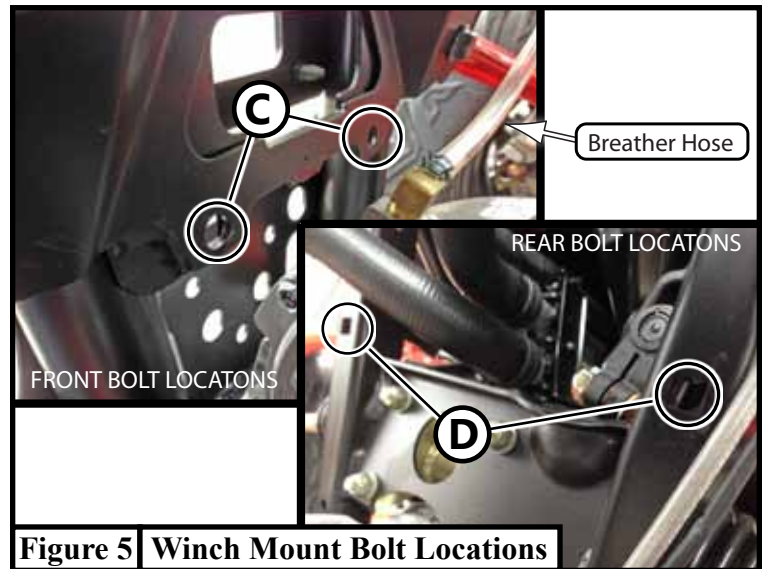

Figure 5 Winch Mount Bolt Locations
5. Once your rear holes are drilled, loosen the 6 bolts (A) to install the Lift Latch Stop (5) between the Flat Cradle Keeper (4) and push tube bulkhead. **The triangle notch in the Lift Latch Stop (5) should be oriented towards the rear of the pushtubes (front of the machine).** Secure components with Bolts (6.4) and Nuts (6.7). See **Figure 5**.
5. Place winch mount (1) into position from the drivers side of the machine in order to avoid the breather hose for the front differential. Align the winch mount (1) with the bolt holes (C&D) as shown in **Figure 5**.